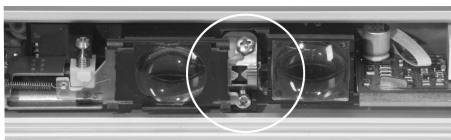

Figure 5.2 Installing master / slave module
- Please make sure that the arbor of the module holder locks into the borehole of the chassis safely. The chassis clip has to be visible in the middle of the module holder (Figure 5.2 Circle).